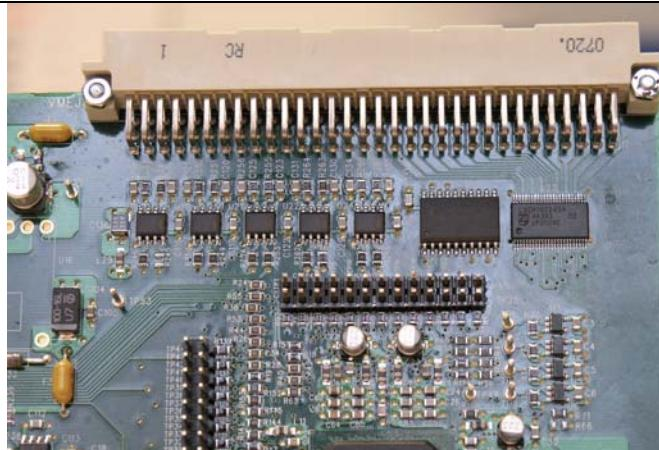

Figure 9: J1 VME Connector
2.1.n: J1 VME connector (figure 9)